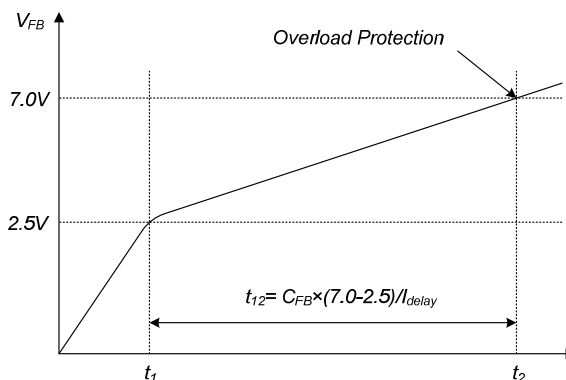

Figure 20. Overload Protection
7.0V, when the switching operation is terminated, as shown in Figure 20. The delay for shutdown is the time required to charge C_{FB} from 2.5V to 7.0V with 2.0 μ A. A 25 ~ 50ms delay is typical. This protection is implemented in auto-restart mode.